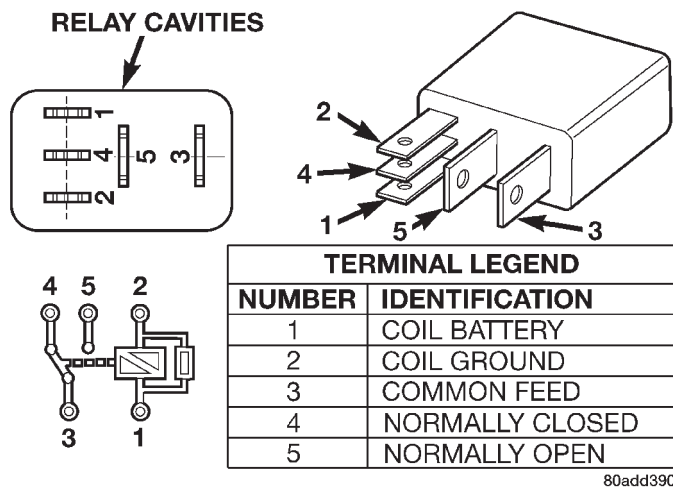

Fig. 15 Type-3 Relay
(16) If equipped with **type-3 relay** (Fig. 15), attach test leads from LCS adapter into PDC relay cavities number 3 and 5. For location of these cavities, refer to numbers stamped to bottom of relay (Fig. 15).